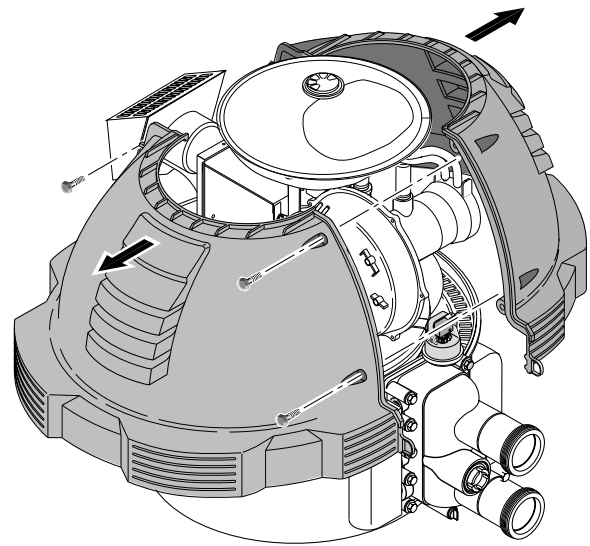

FIGURE 3: Removal of jacket covers
5. Remove the jacket cover(s) by unfastening the screws connecting both halves of the top jacket. See Figure 3.
- Remove jacket cover(s). See Figure 3.